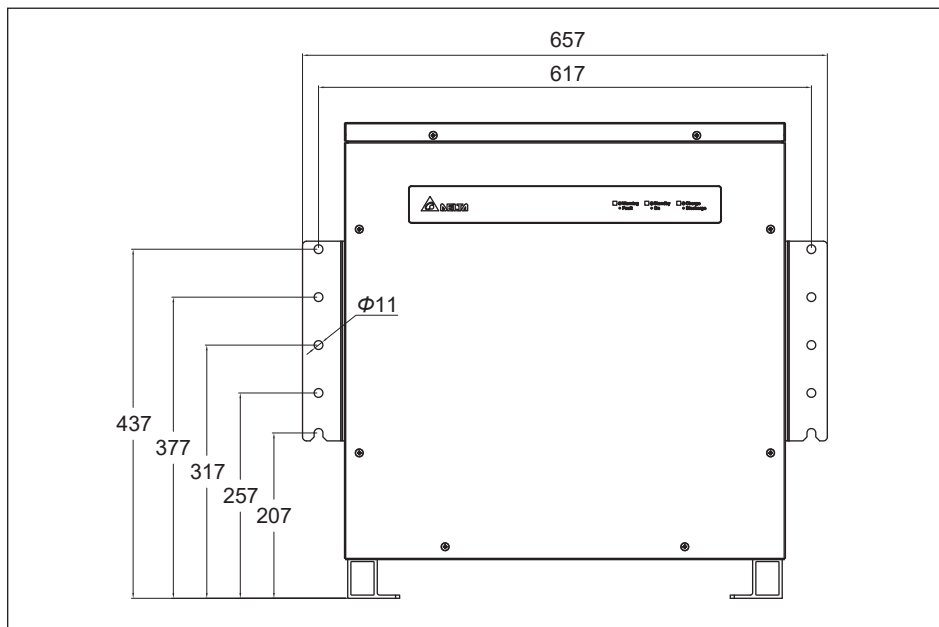

Figure 3-2 : Mounting bracket dimensions (Unit: mm)
2. Use 2 M8~10 Phillips head screws to fix the bottom part of the mounting bracket. Drill holes at the locations marked first. Please refer to **Figure 3-2** for the wall mounting bracket dimensions.